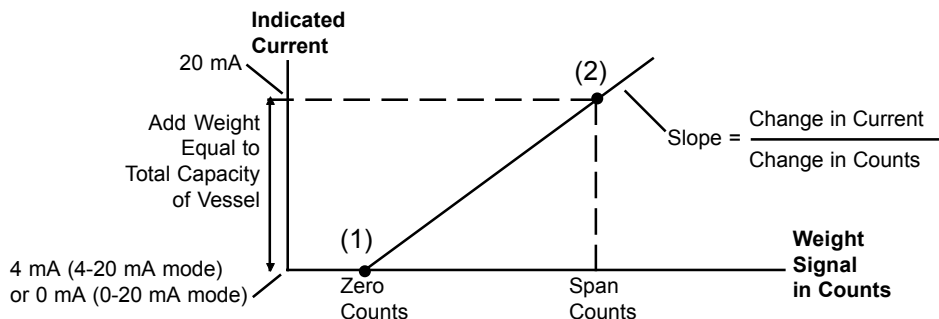

Figure 3-2. High-Accuracy Calibration
The vessel is completely emptied, and Zero [point (1) in Figure 3-2] is set to the low current output (4 mA or 0 mA). A known quantity of material, equalling the vessel's total capacity, is added to the vessel. Span [point (2) in Figure 3-2] is set to the 20 mA current output. The STX saves in memory the current outputs as well as the digital counts associated with them. These values define the straight line shown in Figure 3-2. The slope of the line is called the Scale Factor, which is calculated internally.